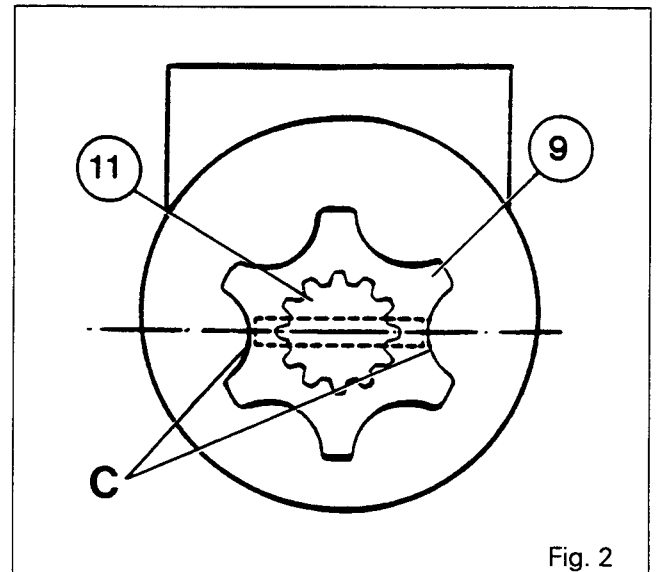
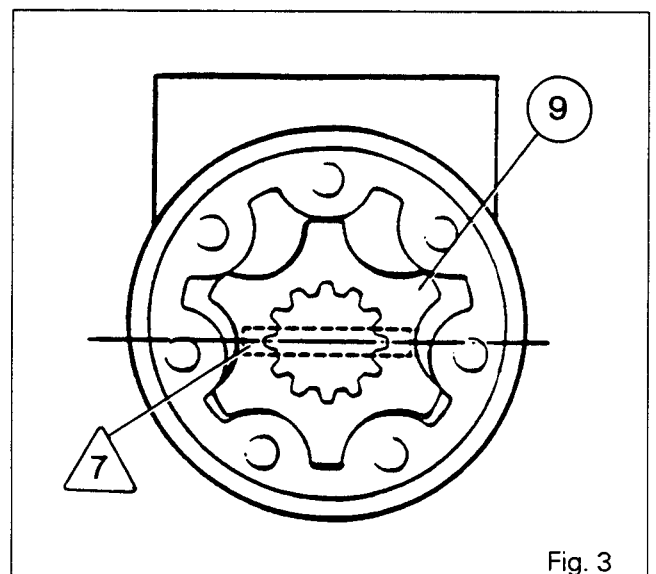

Fig. 2
Fig. 3
22. Fit the washers /12\ and (16) with the chamfer of the washer /12\ facing towards the centring springs /13\, and with the needle roller bearing (14) between them.
24. In the receptacles of the suction valves (23) place the two balls and the two pins.
25. In the receptacle of the non -return valve (22) place the ball and screw on the threaded ring.
26. Position the connecting shaft (11).
27. Fit the O-ring (28) and the distributor plate (29).
28. Fit the rotor (9) in such a way that two of the «C» shaped hollows are in the axis of the aperture of the shaft (11) (Fig. 2). Refit the spacer (10).
29. Place the O-rings (5) and (8) on the stator (6).
30. Whilst taking care not to move the rotor (9), fit the stator (6). Then move the stator so that its fastening holes coincide with those of the distributor.
- Note: The rotor (9) and the pin /7\ must be in the position shown in Fig. 3.**
31. Refit the cover plate (4).
32. Refit the screw /2\ (in the position marked upon disassembly) and the screws (1) with their seals (3). Tighten alternately to a torque of 30– 35 Nm.